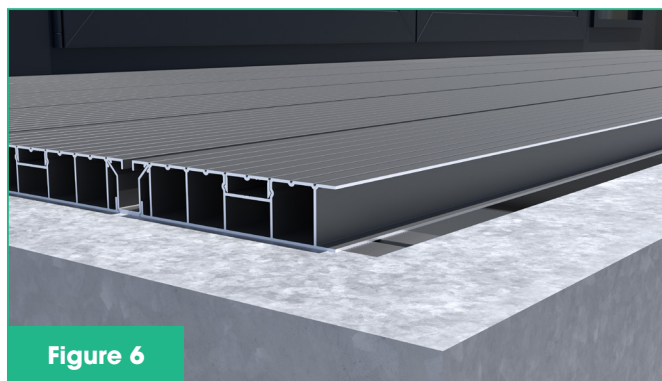

Figure 6
- Cut the board lengthways to suit (offset cuts recommended) (Figure 6).